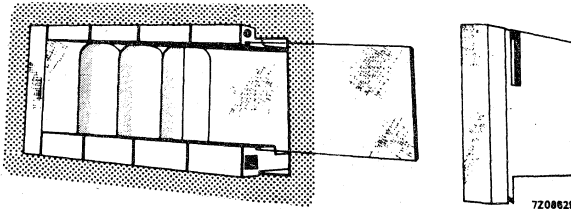

Fig. 3
3. After the last tube holder has been moved to its place, slide the filter plate into the grooves provided for the purpose, see Fig. 3. Slide the other end piece into position in the manner explained for the first end piece.